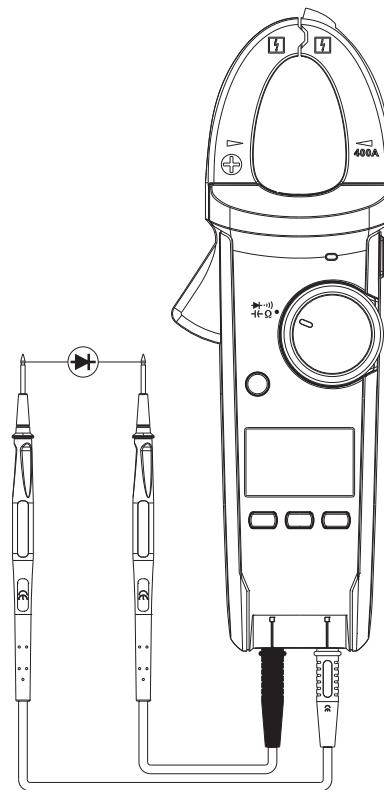

Figure 8
7. Measuring of Diode (See Figure 8)